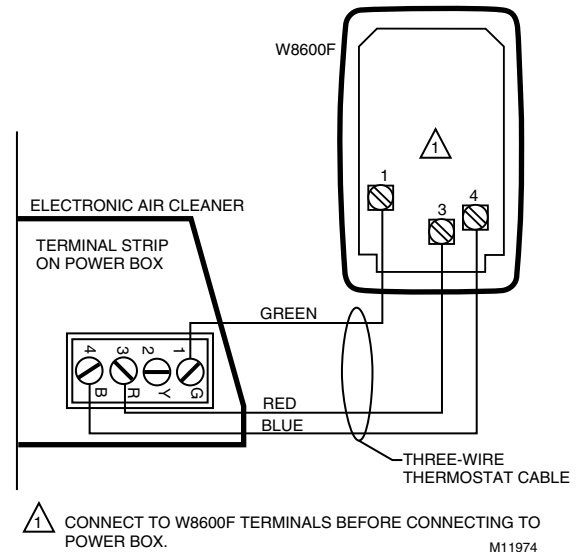

Fig. 12. Wiring W8600F to F58F power box terminal strip.
12. Connect the three wires from the W8600F to the EAC terminals 1, 3 and 4. See Fig. 12.